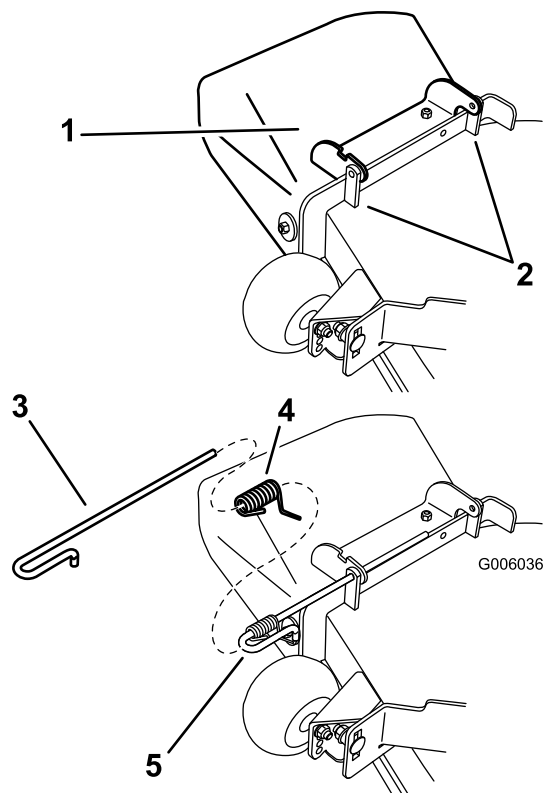

Figure 71
1. Disengage the spring from the notch in the deflector bracket and slide the rod out of the welded deck brackets, spring, and discharge deflector (Figure 71). Remove the damaged or worn discharge deflector.
- Position the new discharge deflector assembly with the bracket ends between the welded brackets on the deck as shown in Figure 71.